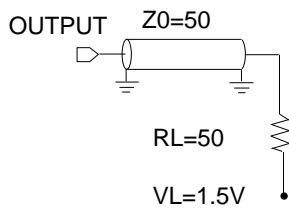
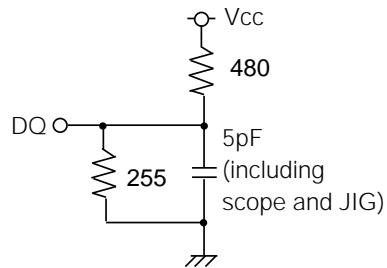

Fig.1 Output load
Fig.2 Output load for  $t_{en}, t_{dis}$
Output loads ..... Fig1, Fig2
5. Transition is measured  $\pm 500\text{mV}$  from steady state voltage with specified loading in Figure 2.